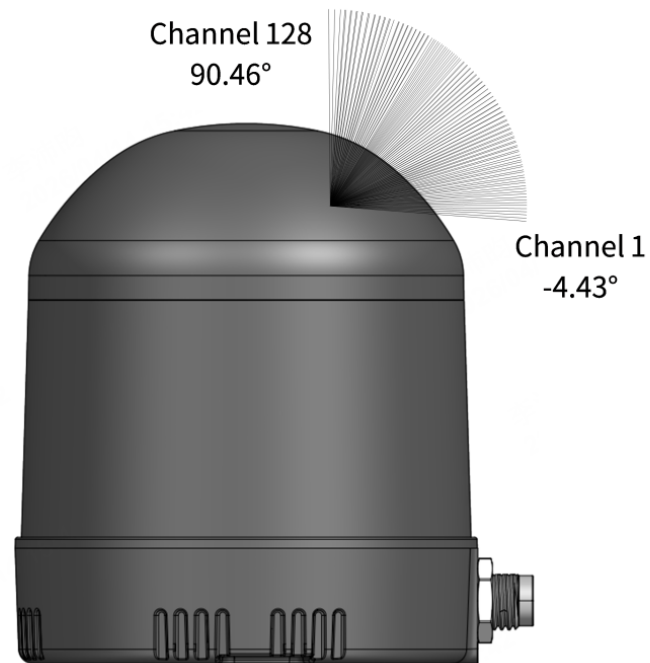

Figure 4. Channel vertical distribution
All channels are unevenly distributed, as illustrated in Figure 4.
- The vertical angles indicated in Figure 4 are projections onto the plane; for the design value of each channel's vertical angle in space, see Appendix A Channel distribution data.